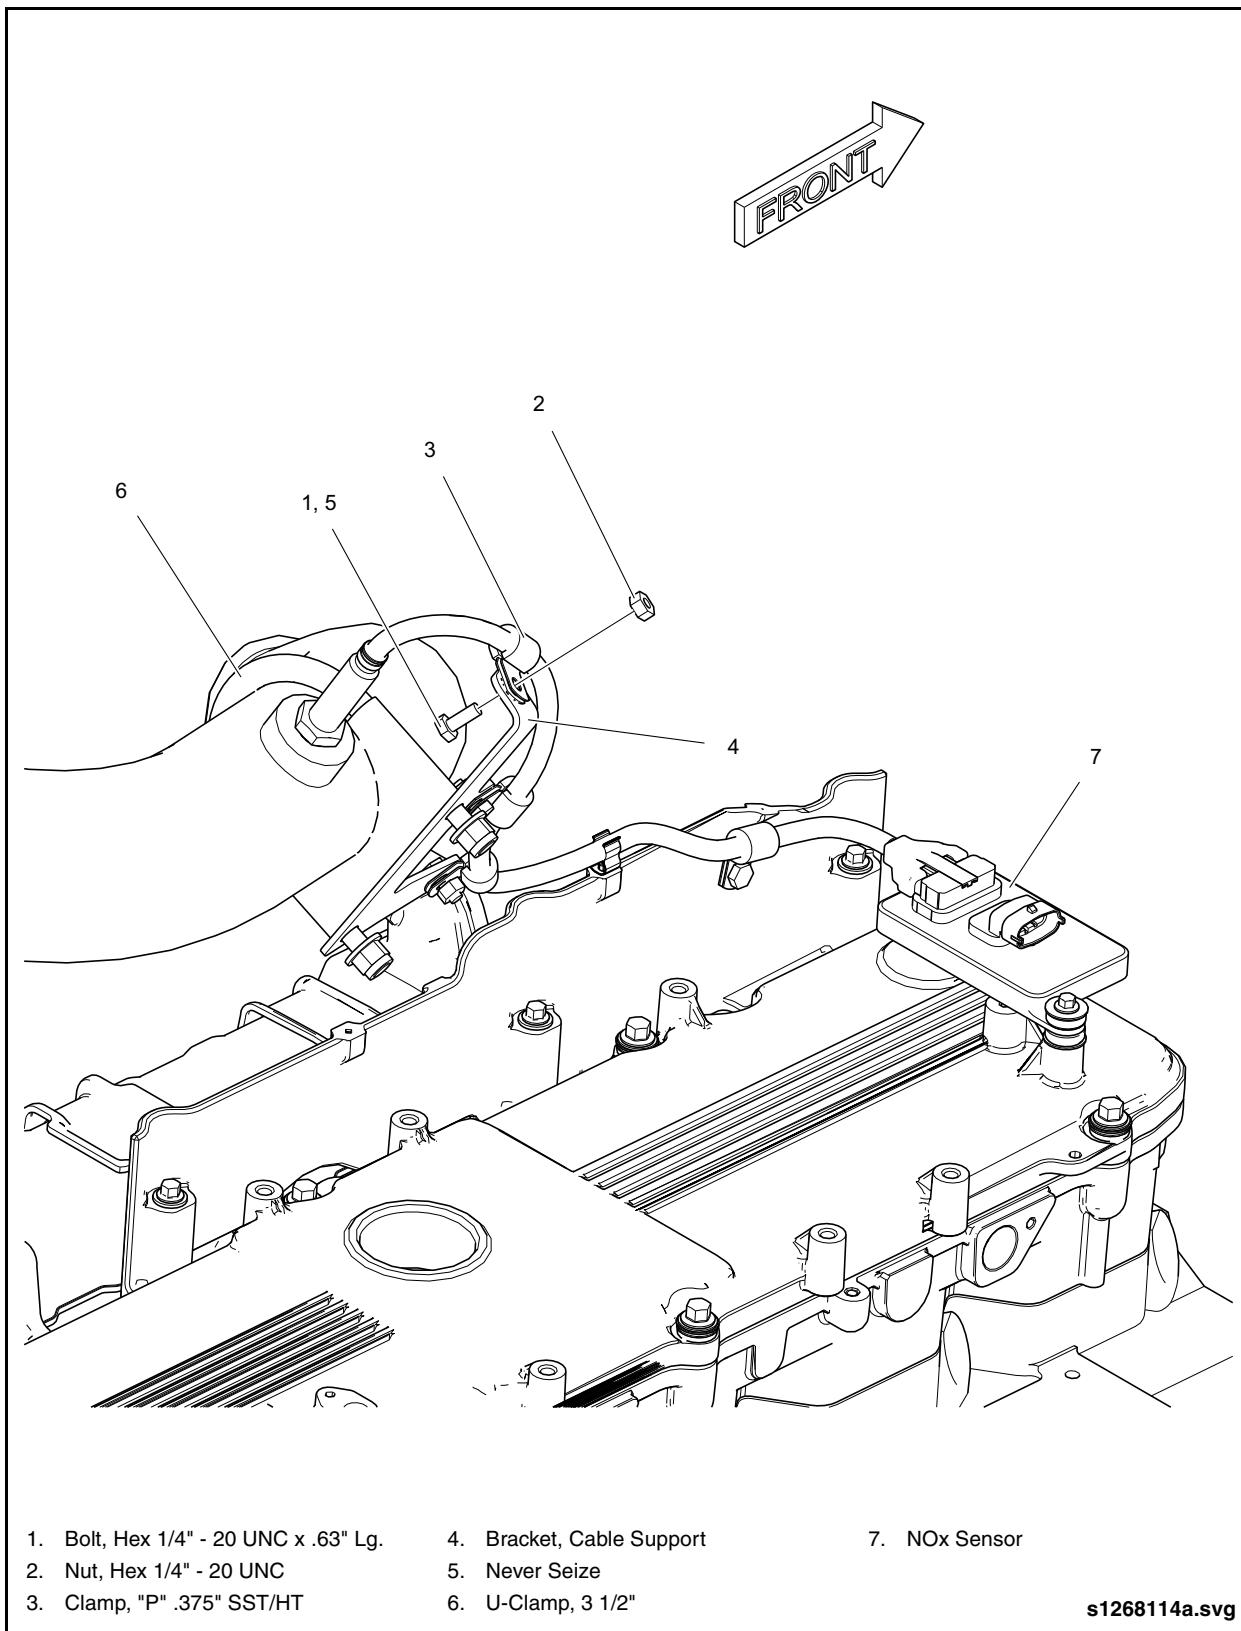

Fig. 4-24: NOx Sensor Removal &amp; Installation
2. Disconnect the vehicle harness from the electronic control module. See “Fig. 4-24: NOx Sensor Removal & Installation” on page 42.